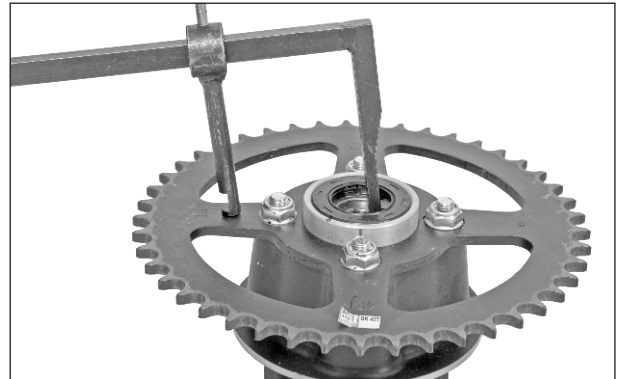

Fig. 6.89
- Remove the dust seal using special tool. (Fig. 6.89)